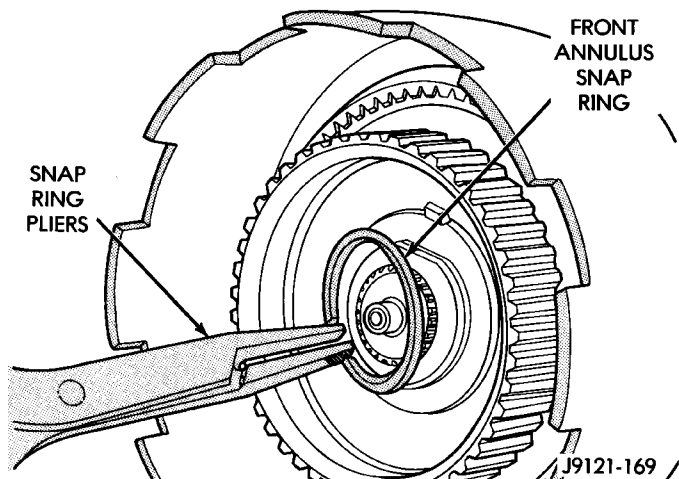

Fig. 182 Installing Front Annulus Snap Ring
(20) Install front annulus snap ring (Fig. 182). Use snap ring pliers to avoid distorting ring during installation. Also be sure ring is fully seated.